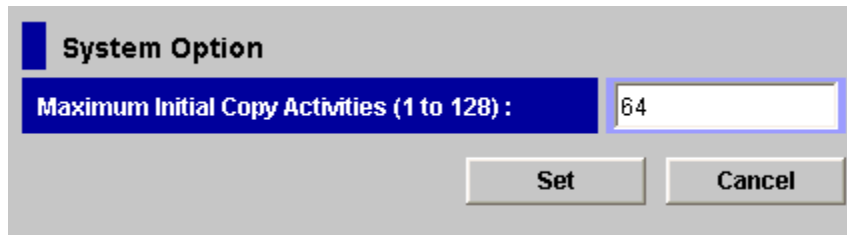

Figure 5-2 System Option Window
5. In the System Option window (Figure 5-2), change storage system options.